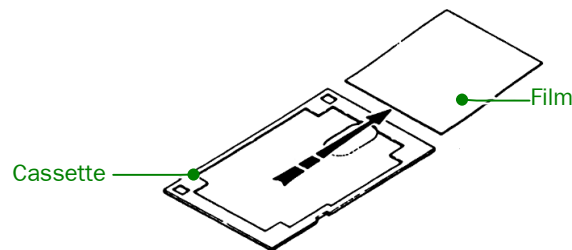

Fig. 5.51 Removing the film from the cassette
3. Carefully remove the film from the cassette (☞ Fig. 5.51).